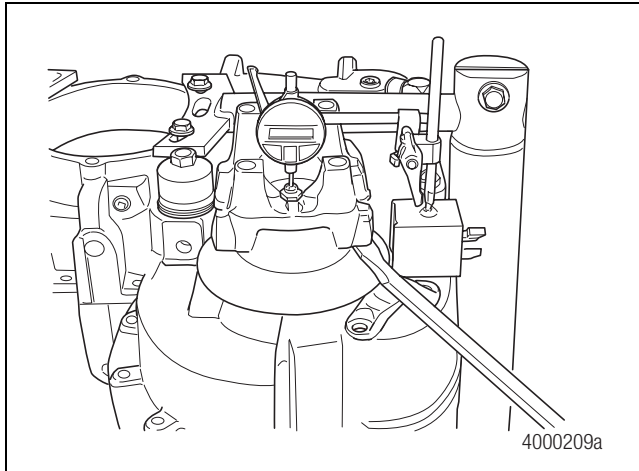

Figure 6.10
- Use a dial indicator to check output shaft bearing end play. Center the dial indicator over the shaft using a ball bearing for accuracy. Figure 6.10.